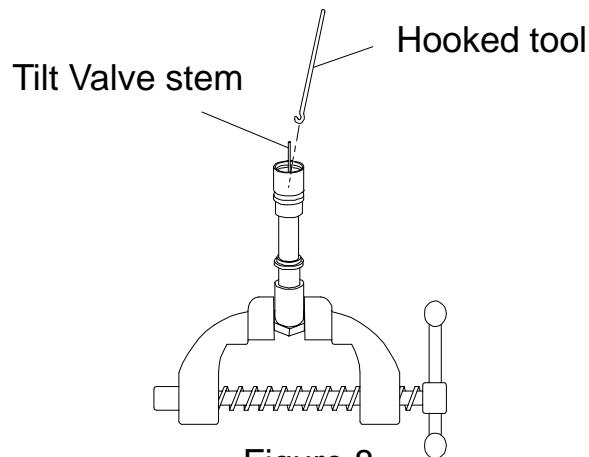

Figure 8
3. With the Inlet Bushing still in the vise, remove the Tilt Valve Seat Retainer (32) and Tilt Valve Seat Support (31). Use a hooked tool with no sharp edges to remove the Tilt Valve Seat (30) from the Inlet Bushing. See Figure 8.